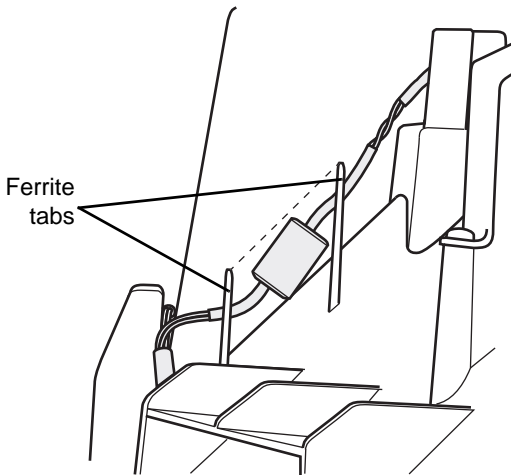

Figure 3-17 Speaker Wire Ferrite Placement
- After removing the tower cover, ensure the speaker wire ferrite is in the correct position, behind the tabs as shown in Figure 3-17. Failure to properly route the wire may cause the wire to pinch when the tower cover is replaced.